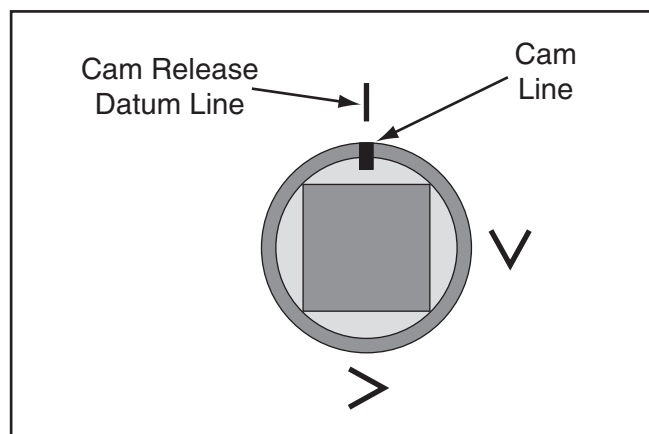

Figure 40. Cam line aligned with the cam release datum line.
5. Make sure all of the cam lines on the side of the spindle are aligned with the cam release datum lines, as illustrated in **Figure 40**.